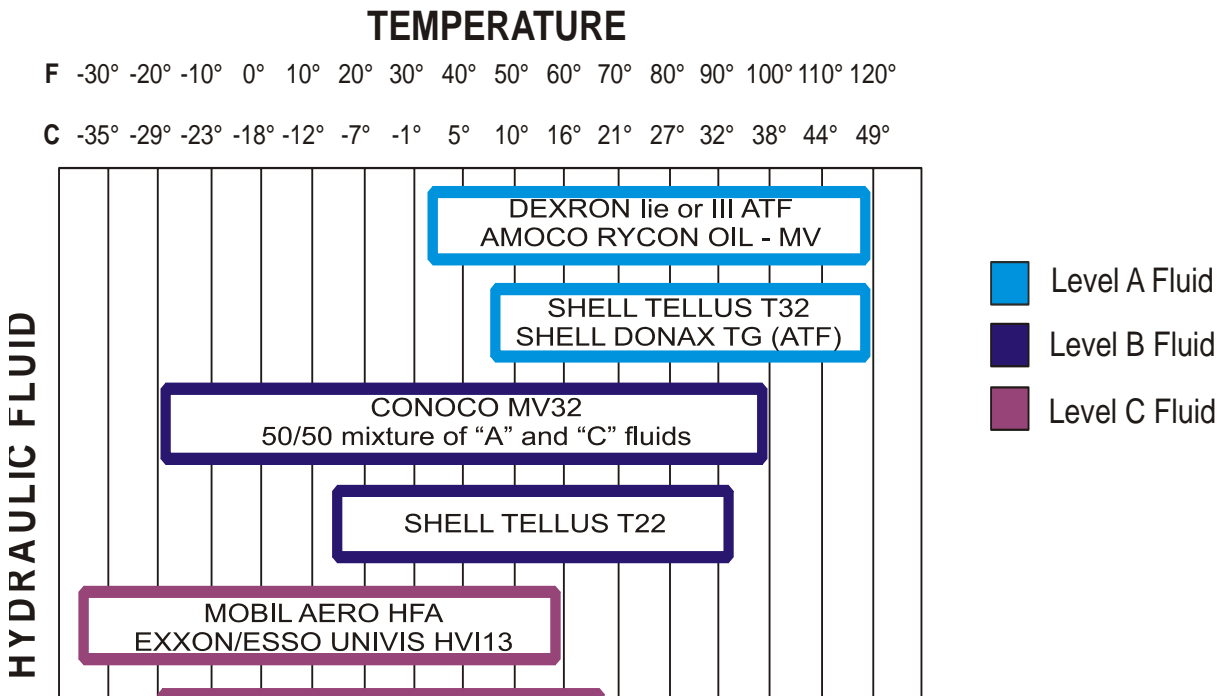

FIG. 5-12
**See Figure 5-12.** If you are operating in temperatures -20° to 100° F (-29° to 38° C), use an all-weather hydraulic fluid such as Exxon Unavis HVI 26 (formerly named J26). For alternate fluids and/or other temperature ranges, refer to the chart below. Operating above the recommended temperature range of a fluid could result in excessive pump wear. Operating below the recommended temperature range could result in reduced hydraulic cylinder speed. To change fluid types, replace one gallon of the current fluid with one gallon of the alternate fluid.